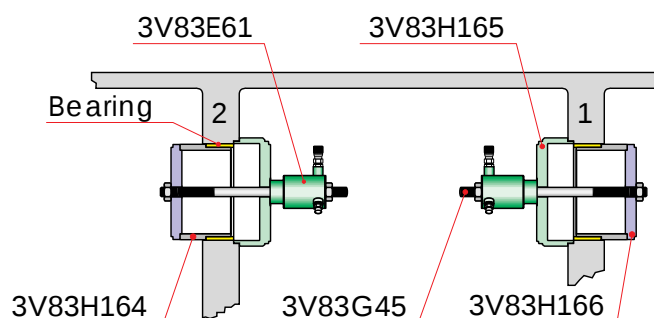

Fig 14-3
- 3** Assemble the removing device 800062 according to Fig 14-3. Notice the difference in tool assembly for the bearing next to the driving end of the engine.